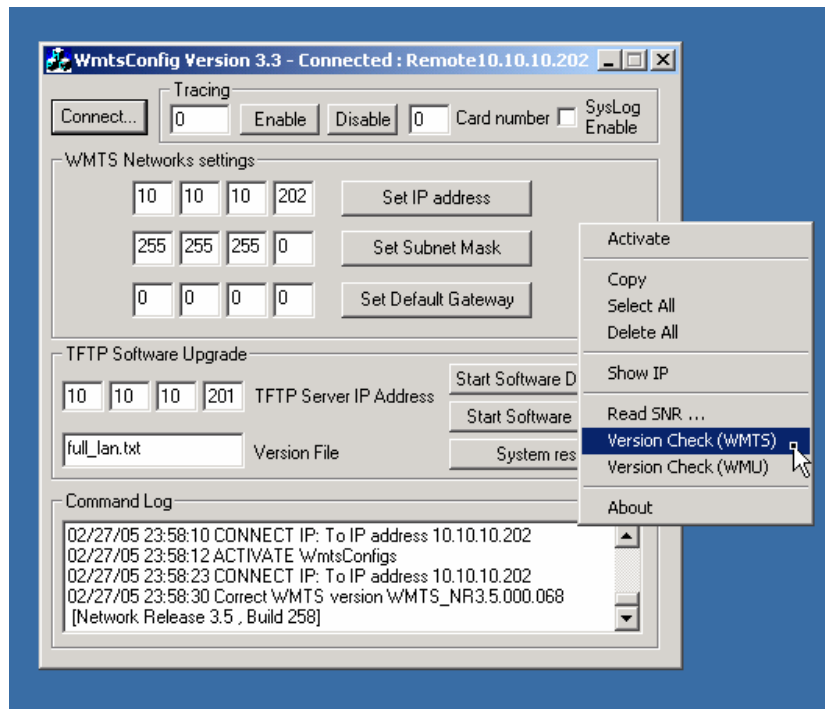

Figure 23: Viewing the WMTS Version
3. Select **Version Check (WMTS)** from the popup menu (Figure 23). The WMTS version is displayed in the Command Log window.